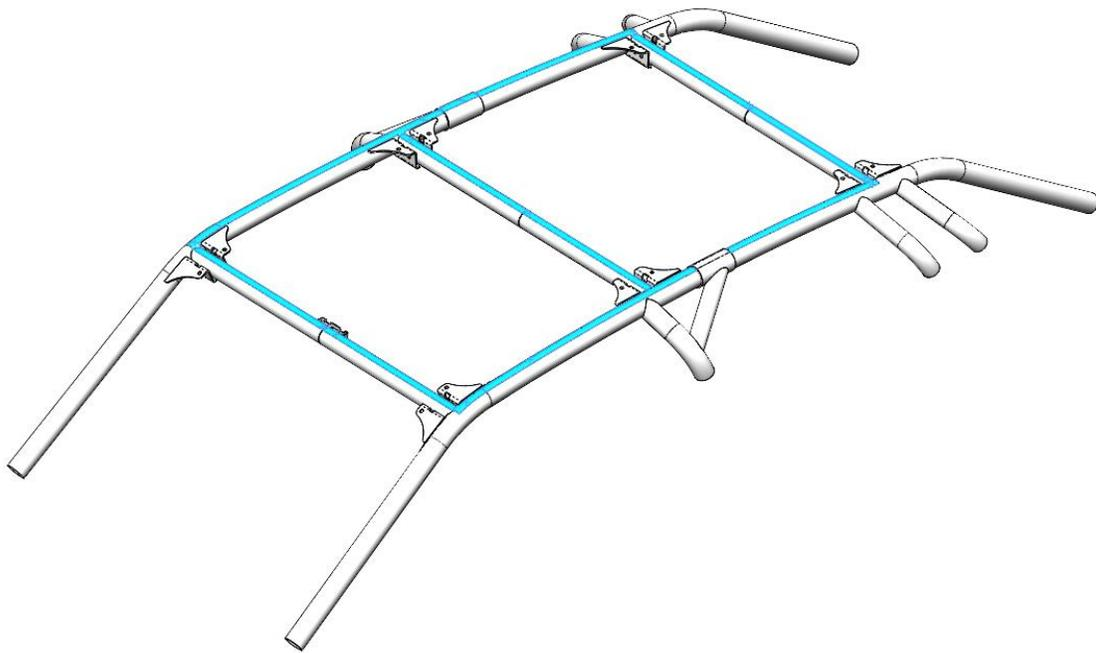

Figure 4: Areas to apply foam tape.
1. Clean the surface of the cage to remove dirt and residue before installing the foam tape. Use a mild detergent or paint safe solvent and allow to completely dry. Place the supplied foam tape across the surfaces highlighted in Figure 4 below.